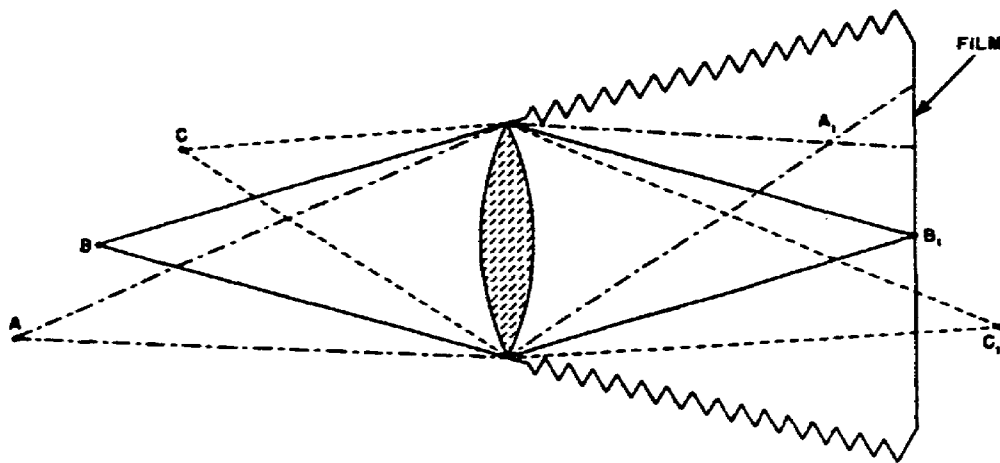

Figure 2-22. Focusing for one object.
b. Figure 2-22 illustrates this process. Light coming from far object, A, passes through the lens to form a sharp object at A1, and light coming from the nearer object, C, passes through the lens to form a sharp image at C1.